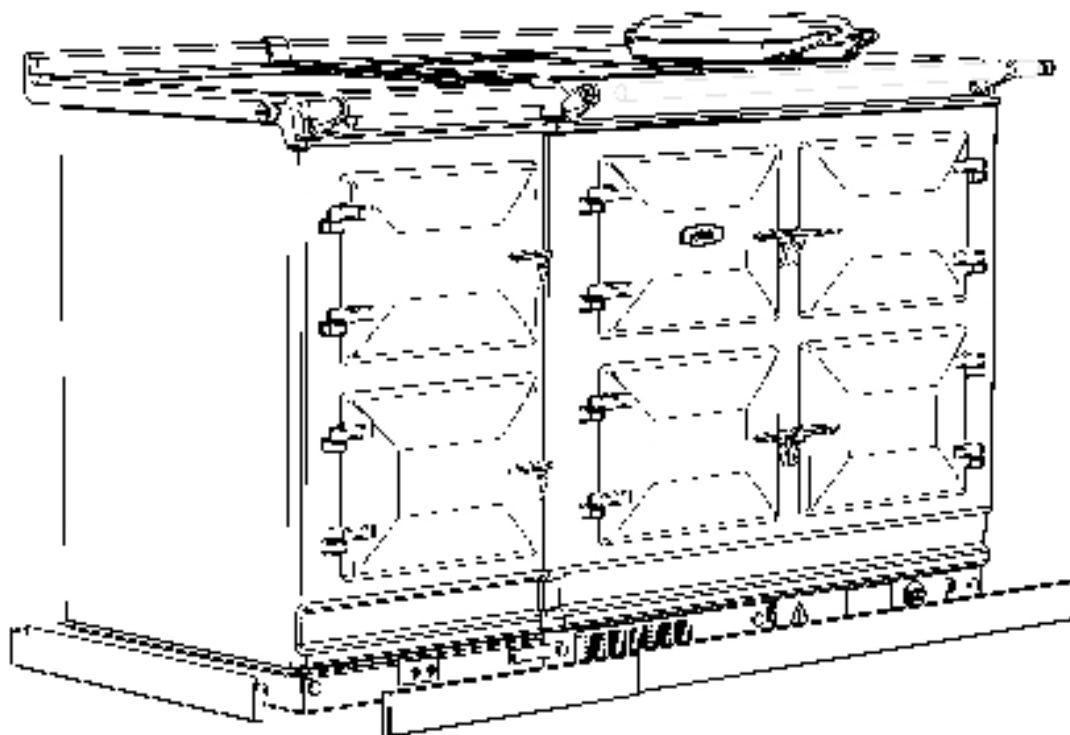

Fig. 5.12
11. On 5 oven appliances, fit 'allthread' stud into the threaded end of the handrail, then feed the handrail through the bracket (ensuring that the allthread stud is protruding from the right hand side of the hotcupboard handrail) and screw the handrails together. (Fig. 5.12).
(Fig. 5.12)